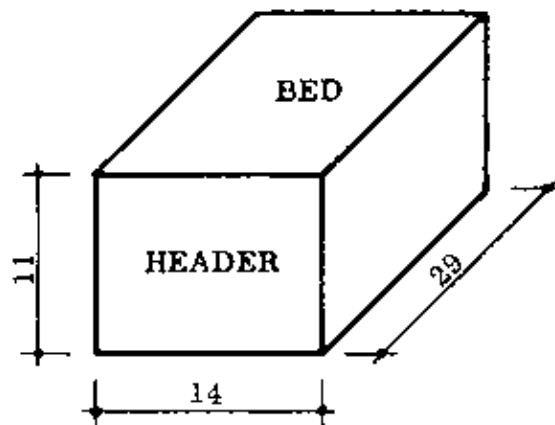

Fig. 1 SUN-DRIED TRAINING BLOCK
– SUN-DRIED TRAINING BLOCKS: These blocks, as the name implies, are dried in the sun, because they do not contain cement (Fig. 1). They are often used by beginners during their first terms of in-centre training, as they are easy to make and to handle.